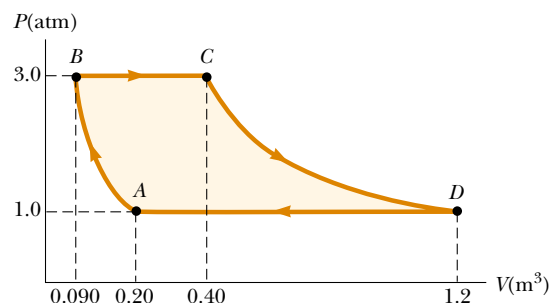

Figure P20.32
32. A sample of an ideal gas goes through the process shown in Figure P20.32. From A to B , the process is adiabatic; from B to C , it is isobaric, with 100 kJ of energy flowing into the system by heat. From C to D , the process is isothermal; from D to A , it is isobaric, with 150 kJ of energy flowing out of the system by heat. Determine the difference in internal energy, $E_{\text{int}, B} - E_{\text{int}, A}$.